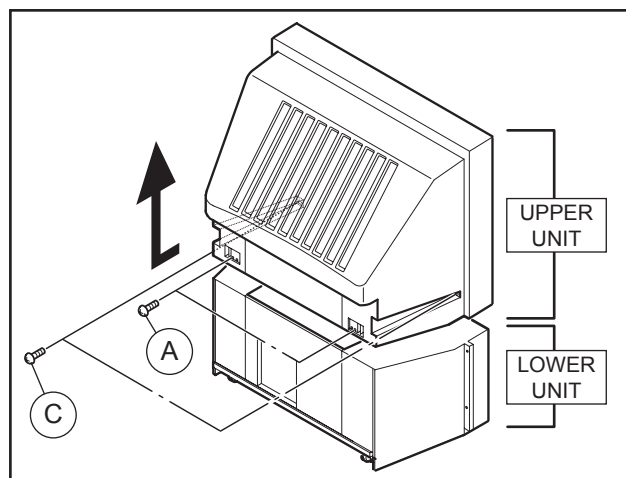

Fig.3
- (7) Remove 1 screw C on the left edge of the rear cover, and 1 screw C on the right edge of the rear cover. [Fig.3]
- (8) Remove 1 screw [**A**] on the left side of the rear cover, and remove 1 screw [**A**] on the right side of the rear cover. [Fig.3]
- (9) Move the rear cover approx. 3cm in rear direction. Then, remove the upper unit from the lower unit by lifting the upper unit slowly. [Fig.3]